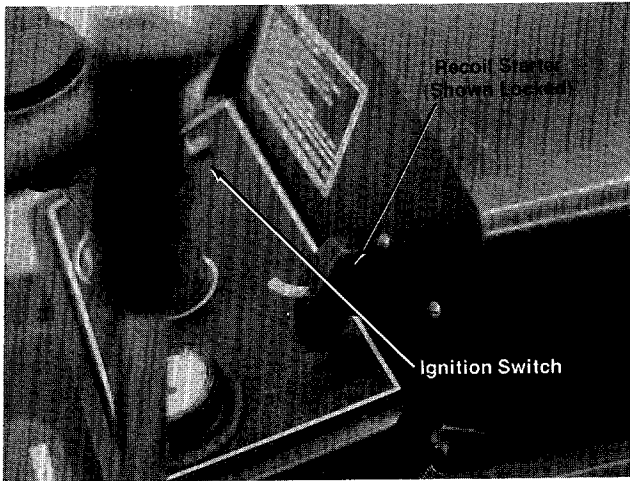

FIGURE 11. RECOIL START MODEL.
Recoil Model. See figure 11. Turn the key to the ON position when starting the engine. To stop the engine turn the key to the left to the OFF position and remove the key to prevent accidental starting.
j. Recoil Starter. The recoil starter is located on the right side of the dashboard. The recoil starter can either be pulled while seated on the rider or pulled while standing behind the rider. The ignition key must be on before the engine will start. After the engine starts, the recoil starter handle must be returned and locked into the dashboard before the blades or clutch are engaged. The engine will stop if you do not follow these instructions. See figure 11.
- a. Turn the ignition key to the ON position. See figure 11.
- c. Slowly release the recoil starter and lock it into the dashboard as shown in figure 11.